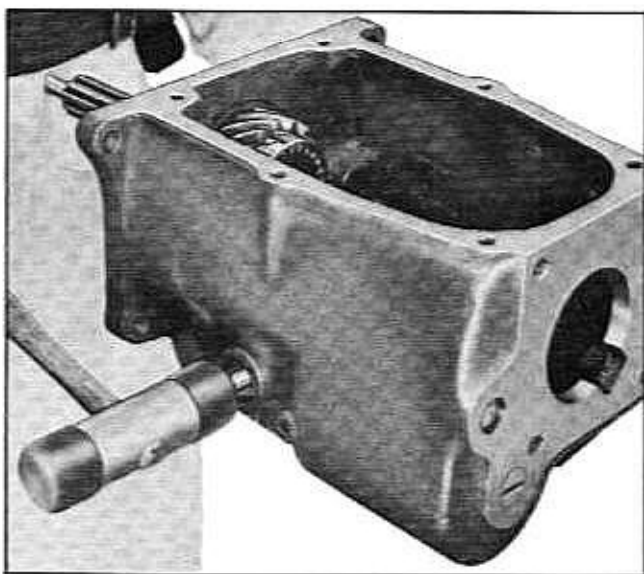

Fig. 7-21 Removing Selector Shaft
12. Pull selector shaft to left and remove interlock retainer from groove in right end of selector shaft and using a soft hammer drive the shaft out through right side of transmission case (See Fig. 7-21). The welch plug in right side of case will be driven out by the shaft. Do not allow shifter levers and interlock to drop into case. **CAUTION:** When replacing selector shaft, be sure to install from left side of case toward right in order to avoid damaging oil seal.